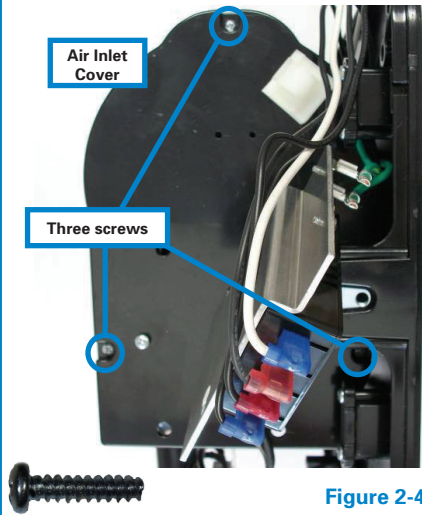

Figure 2-4
Step 2-3. Remove the **three (3)** screws from the air inlet cover and pull it off the dryer. **Save all three of these screws for later use in Step 2-12.** (Figure 2-4)